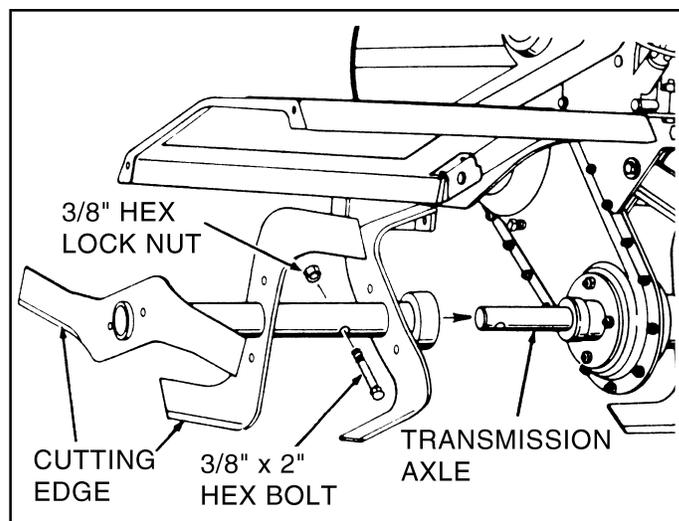

FIG. 3
- Remove the preassembled 3/8" x 2" hex bolt and 3/8" hex lock nut from the L.H. Tine Assembly. Slide the tine assembly onto the Transmission Axle on the left side of the tiller and secure with the hex bolt and hex lock nut. (See fig. 3.) Repeat for the R.H. side.